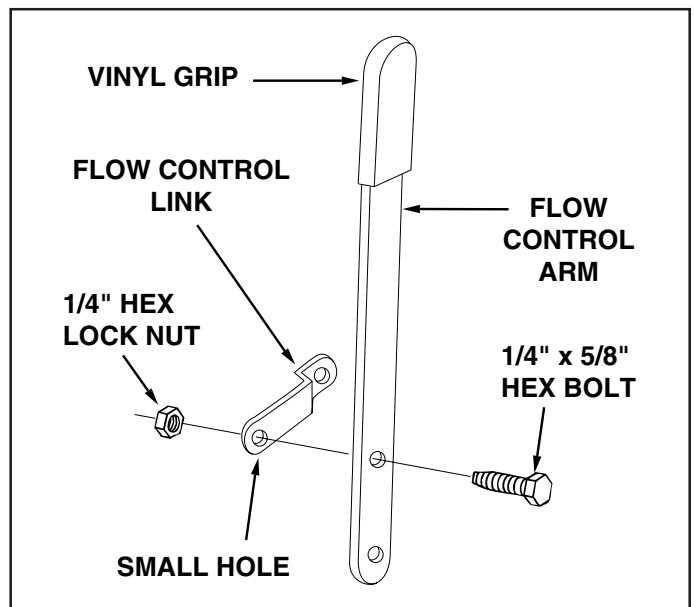

FIGURE 6
16. Assemble the flow control link (the long end with the small hole) to the flow control arm using one 1/4" x 5/8" hex bolt and one 1/4" hex lock nut. **Do not over tighten.** The flow control link must pivot freely. See figure 6.
17. Place the vinyl grip on the flow control arm. See figure 6.